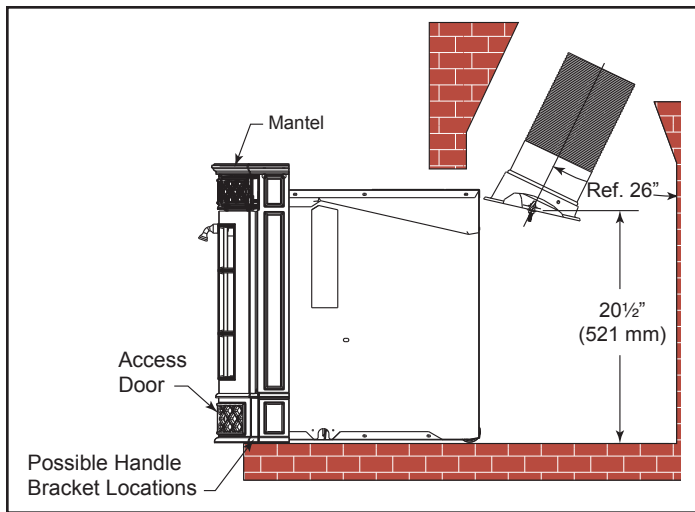

Figure 7 - Measured height from the finished hearth surface to the center bar of the flue collar.
- Install the connector pipe or liner so that the height measured from the finished hearth surface to the center bar of the flue collar is 20½" (521 mm). (Figure 7) This will allow an easy connection once the stove is rolled into place.
10. Install the supplied handle storage bracket by simply sliding the flat end under the right or left side of the stove. (Figure 7)